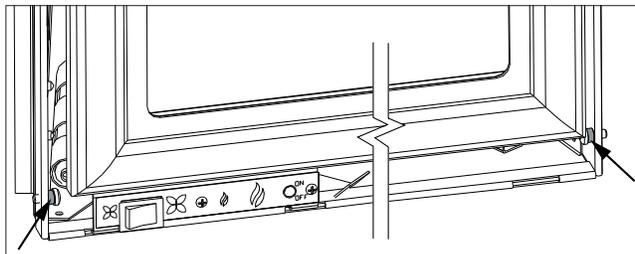

Figure 66: Hook Placements.
A footing (i.e. Base Shelf) may need to be installed before the Cast Andiron is installed so that the Cast Andiron has something to sit on. Hook the Andiron assembly over the two (2) bushings near the bottom of the Sonnet, pointed out in Figure 66, and snap them firmly down into place. When in place it will look similar to the image on the front cover of this Sonnet Owner's Manual.